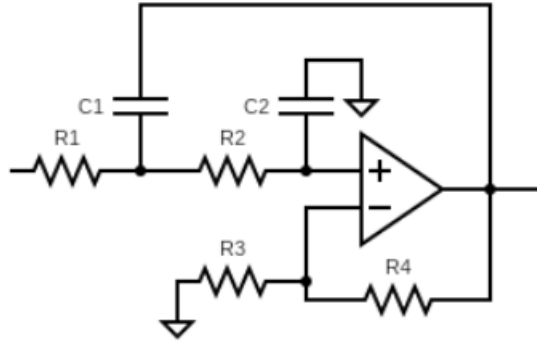

Figure 3: Sallen-Key Filter Circuit for Butterworth Response
The circuit shown in Figure 3 represents a Sallen-Key filter. When the quality factor (Q) is set to 0.7071, the filter achieves the Butterworth response, ensuring a maximally flat passband and smooth transition to the stopband. This design is particularly effective for second-order low-pass filters.
Question: For the Sallen-Key circuit shown in Figure 3, calculate the following parameters: